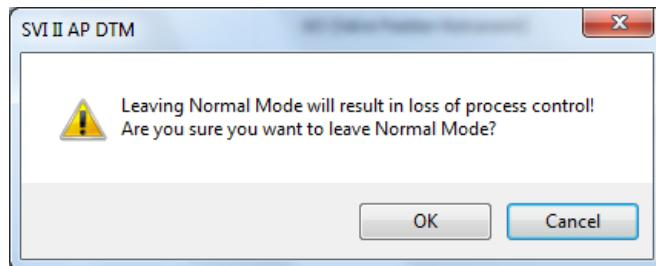

Figure 29 Leaving Normal Mode
- Click the mode. When leaving *Normal* mode a dialog appears (Figure 29).